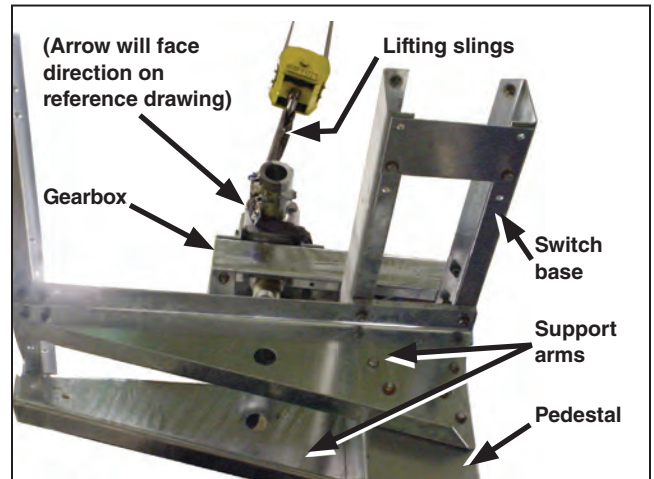

Figure 10. Install the gearbox.
STEP 2. Secure the gearbox to the switch base with four $\frac{5}{8}$ -11 \times 2 $\frac{1}{4}$ -inch hex-head cap screws, eight flat washers (two per joint), and self-locking hex nuts furnished. See Figure 10.